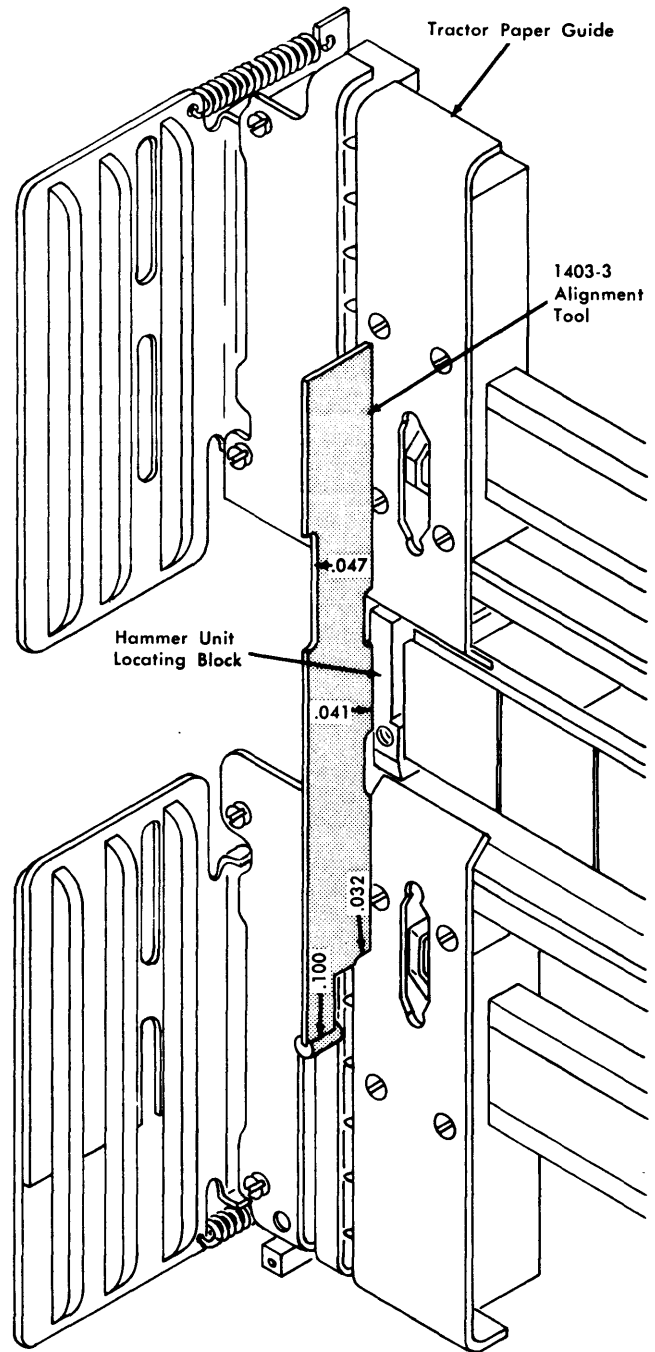

Figure 86. Hammer Unit to Paper Path Alignment
7. With the tractor doors open, place the special Model 3 alignment tool (part 452457) vertically against the tractor paper guide plates (Figure 86). The projection in the center part of the tool is .041".